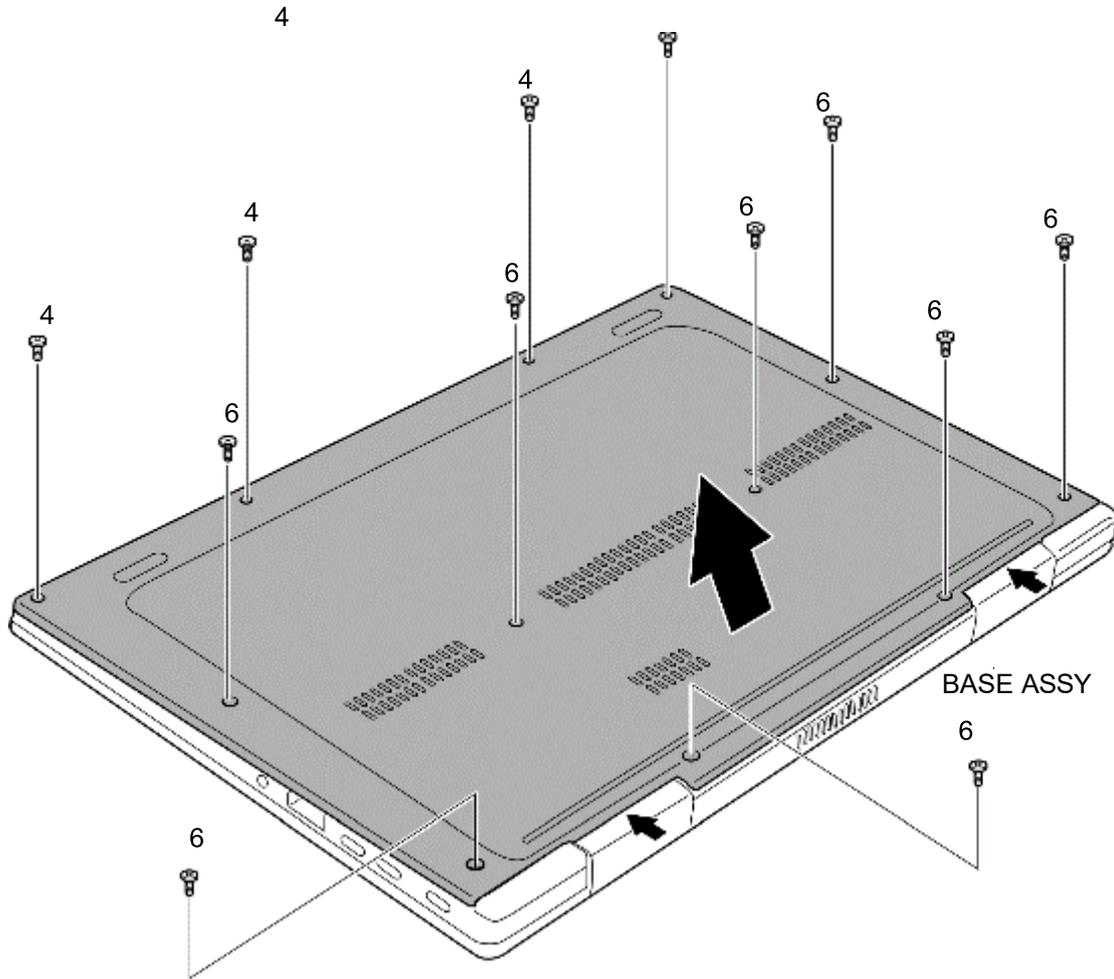

Figure 4-3 Removing the BASE ASSY (1)
- M2.5□4B FLAT HEAD screw □4 (Described as “4” in the Figure 4-3)
- M2.5□6B FLAT HEAD screw □8 (Described as “6” in the Figure 4-3)